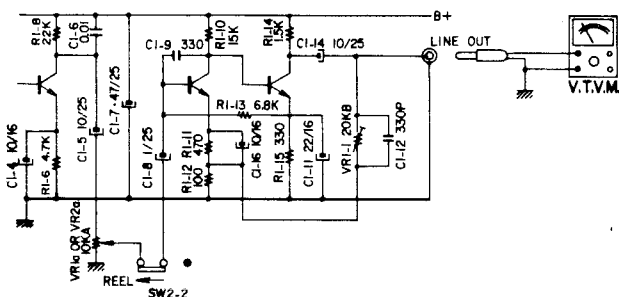

Fig. 3
#### (A) Playback (See Fig. 3) (Reel only)